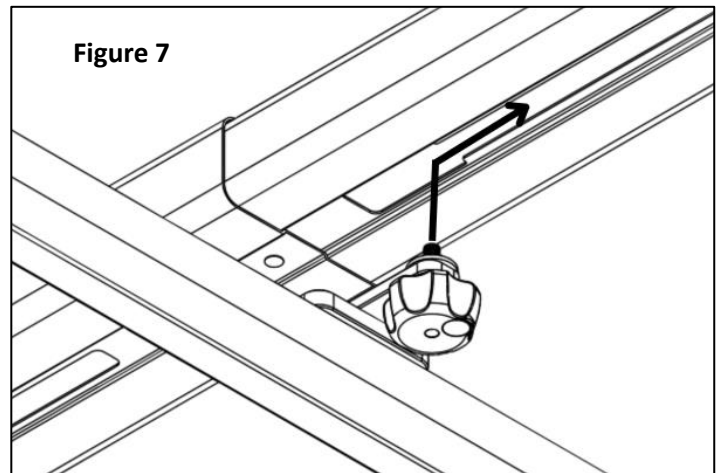

Figure 7
- 9) With your CRC System extended and ready to mount, lift the CRC Rod Carrier on top of your vehicle and slide the T-Slot Mount Adapter **Clamp Plates** into the desired T-Track slots of your CRC System (Figure 7).